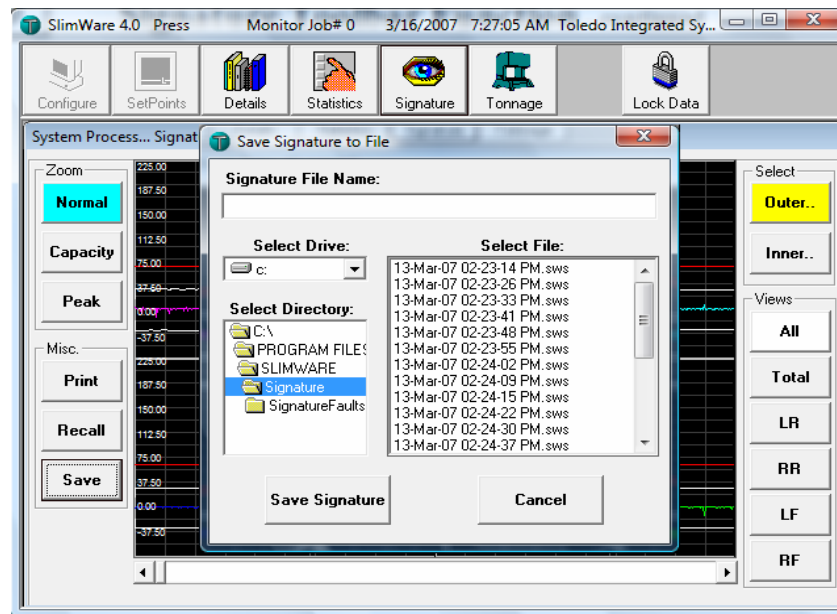

Figure 9.9 - Save Signature to File Prompt Box
- Download a signature from the online Slim load monitor. When the download is complete, select the **Save** button on the System Process window. The **Save Signature to File** prompt box will be displayed as shown in Figure 9.9.